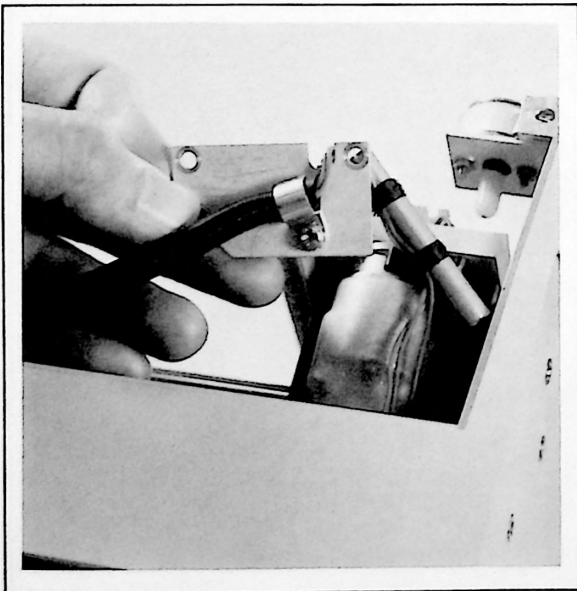

Figure 5-9. Y-Axis Servo Motor Replacement – Bottom Plate and Trailing Cable
4. Remove two Phillips POZIDRIV screws holding plate behind motor. Position plate and cable clear of motor. See Figure 5-9.